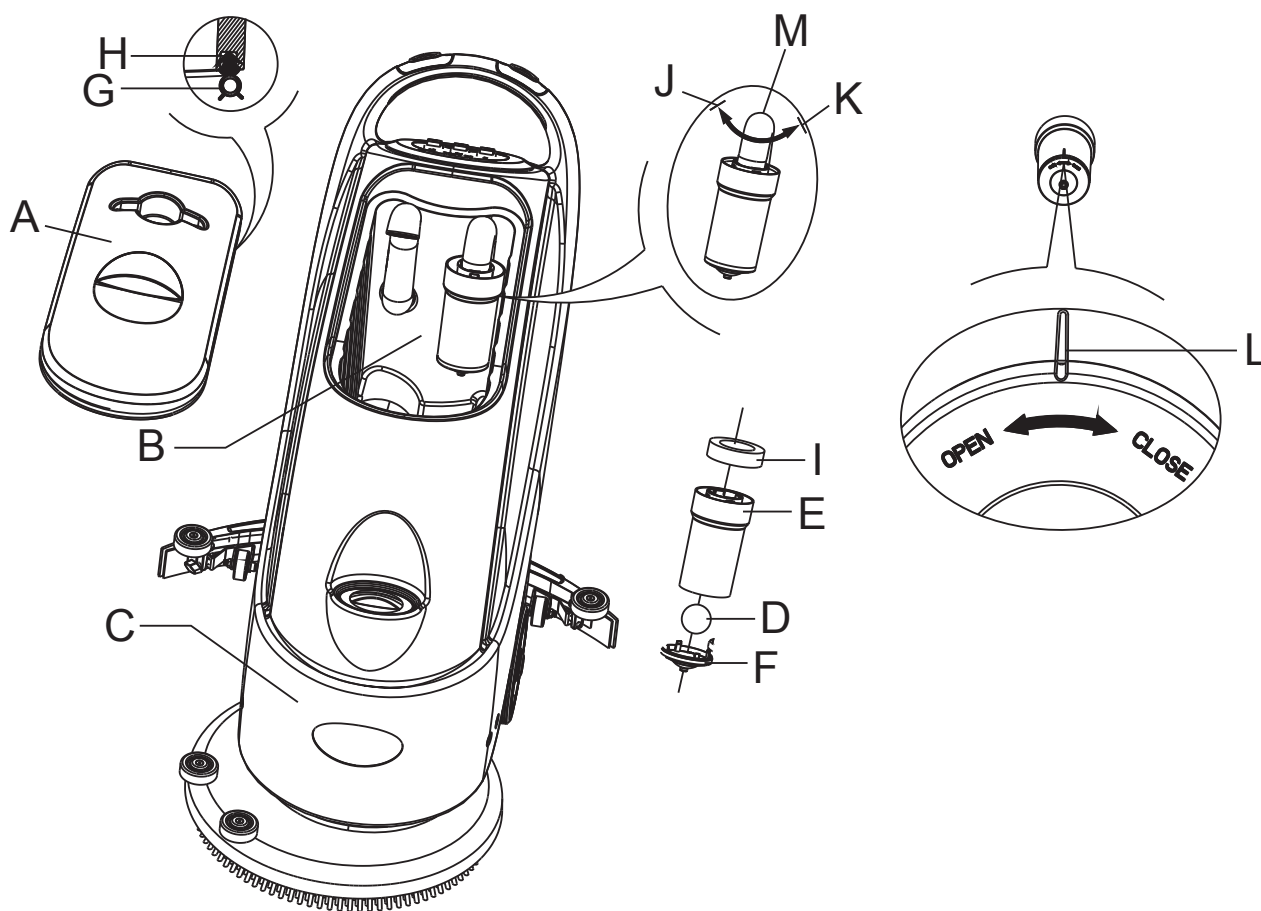

FIGURE 16
2. Press the power switch (41) to the position "O" to turn off the machine.
3. Open recovery tank lid (A, Figure 16), and remove the float device (36) from inside the tank.
4. Use clean water to rinse the recovery tank lid (A), the tank (B and C), and the float filter support frame (E). Drain all the water from the water tank.
5. If necessary, following the symbols "Open" and "Close" as shown in Figure 16, open the bottom lid (F) of the float filter and clean the float (D), float filter support frame (E), and the filter sponge (I). After cleaning, re-attach the float onto the support frame (E), and then align the mark groove (L) of the bottom lid (F) of the float filter with the mark groove (L) of the float filter support frame (E). Turn the bottom lid (F) of the float filter tight, and re-attach the filter sponge (I) onto the support frame (E), and then onto the vacuum tube (M).
6. Inspect the seal / gasket (G) of the recovery tank lid. If necessary, the recovery tank seal / gasket (G) may be taken out from the groove (H) and changed. When installing the new seal / gasket as shown in Figure 16 below, install the connector to the middle section of the rear part.